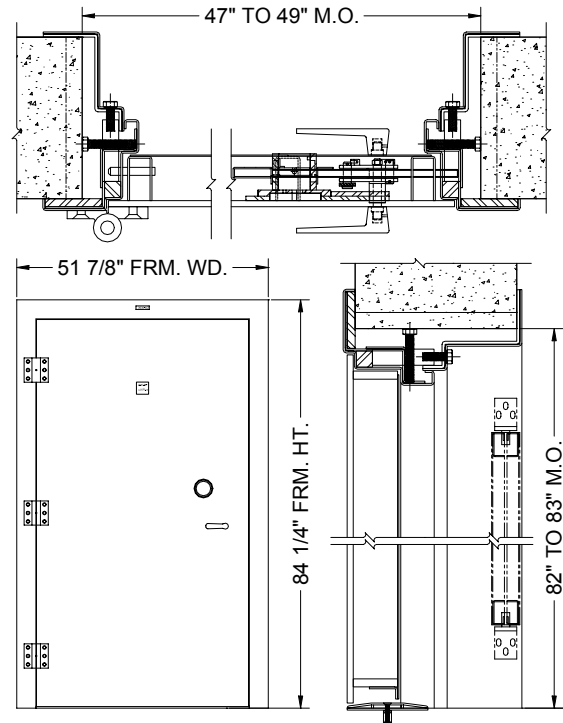

FIGURE 1
**Prior to unpacking the Vault Door, check the masonry opening to make certain that it complies with the above dimensions as shown in Figure 1.**